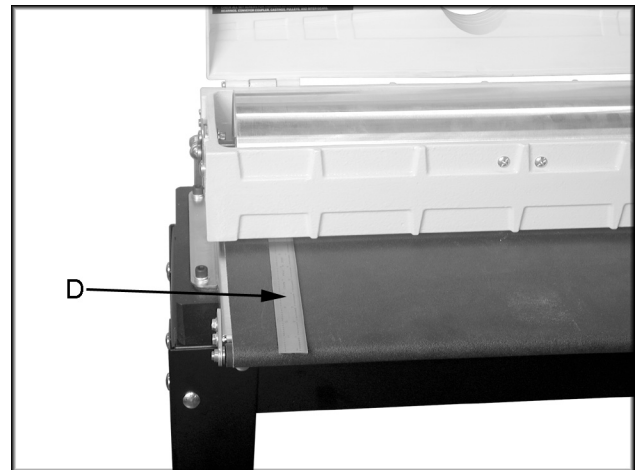

Fig. 4
2. Using a metal straight edge, or ruler, as a thickness gauge (Fig. 4, Item D), insert the gauge between the drum and the conveyor bed on the outer end of the drum.